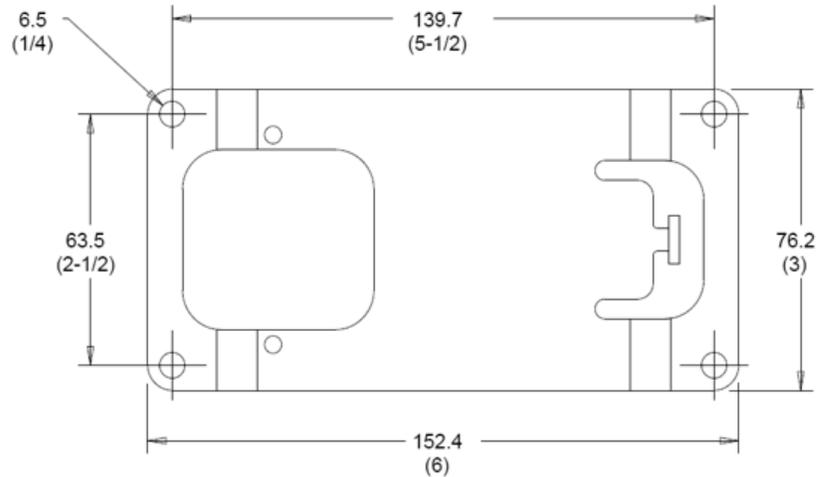

Figure 3: Hole Patterns in Mounting Brackets with Dimension, mm (in.)
See Figure 3 for the hole mounting pattern of the mounting brackets. The hole pattern locates the actuator crankarm assembly with respect to the drive blade, jackshaft, or crankarm to be driven.
2. Locate the actuator mounting holes that are located under the label at the  symbol printed on the label, shown in Figure 3. Puncture the label with a sharp object to help start the thread forming screws.
6. Use the center punch to mark the hole locations for the bracket in the duct or damper frame (Figure 3).